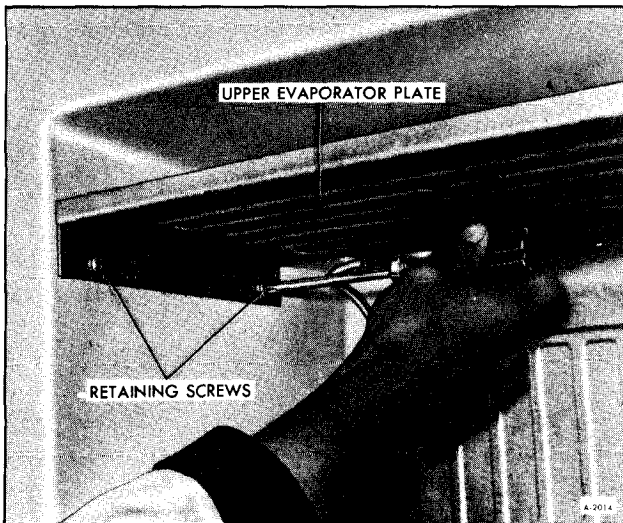

Figure 11-Removing Evaporator Screws
2. Remove eight screws from upper and lower evaporator plates, four screws in each (figure 11).
6. Secure evaporators with eight screws (figure 11).